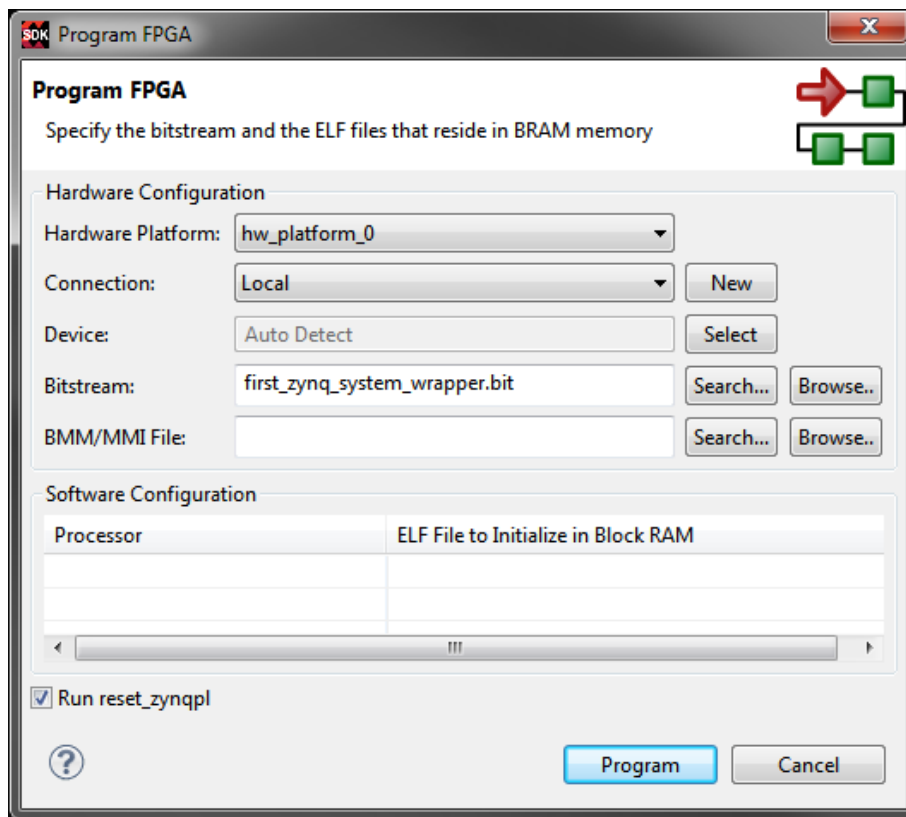

Figure 1.30: Program FPGA dialogue Window
- (j) Download the bitstream to the Zynq PL by selecting **Xilinx Tools > Program FPGA** from the *Menu bar*. The *Program FPGA* window will appear. The Bitstream field should already be populated with the correct bitstream file, as in Figure 1.30.